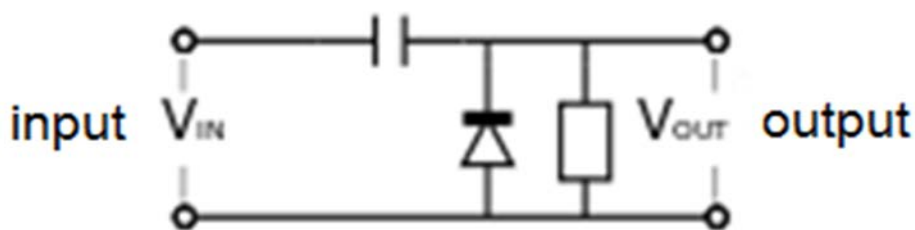
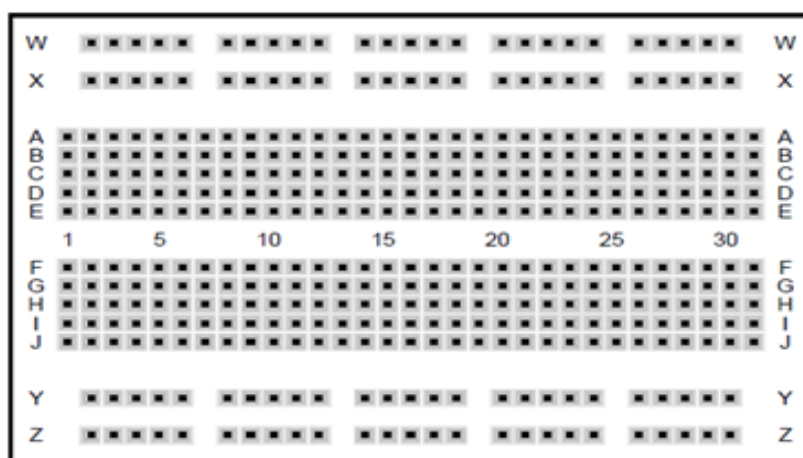

FIGURE 4.7.13
FIGURE 4.7.14
- 4.7.5 Construct the simple clamper circuit in FIGURE 4.7.13 on the breadboard in FIGURE 4.7.14 below. Draw the component layout on the figure.